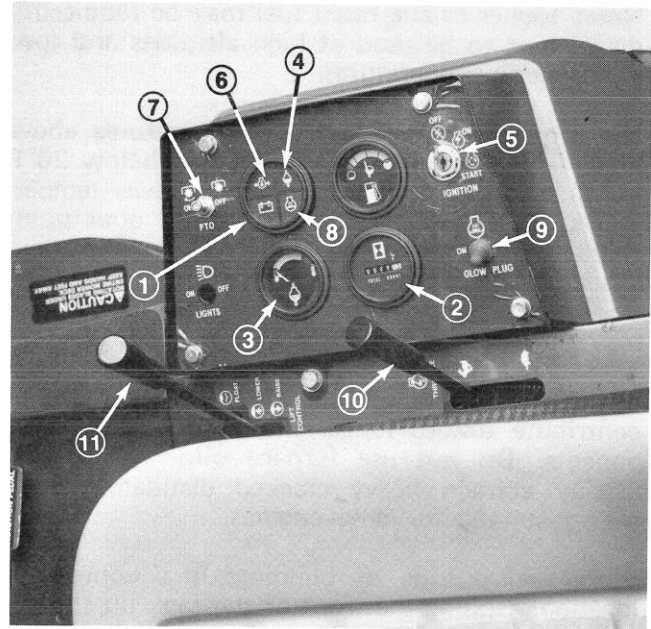

Figure 18
Amp Light (Fig. 18) — The amp light should be off when engine is running. If it is on the charging system should be checked and repaired if necessary.
Hour Meter (Fig. 18) — Accumulated engine operating time registers on the hour meter.
Temperature Gauge and High Temperature Light (Fig. 18) — The coolant temperature gauge registers the coolant temperature in the system. If the temperature gets too high the engine will automatically shut off and the High Temperature Shutoff Light will light. When this happens, turn the ignition key off, check radiator for debris, check the fan belt and check the expansion tank for proper coolant level. The high temperature shutoff will automatically reset when the coolant temperature has reached a safe level.
Low Oil Pressure Light (Fig. 18) — If oil pressure falls below a safe level, the light glows. Stop engine and repair before resuming operation.
PTO Switch (Fig. 18) — Turn PTO switch ON (lift switch while moving it to ON position) to ENGAGE and turn the PTO switch OFF to DISENGAGE the power takeoff electric clutch. The only time the PTO switch should be in the ENGAGE position is when cutting unit is on the turf and grass is actually being mowed.
Ignition Key Switch (Fig. 18) — The ignition switch, which is used to start and stop the engine, has three positions: OFF, RUN and START. Rotate key clockwise — START position — to engage starter mower. Release key when engine starts. The key will move automatically to the ON position. To shut engine off, rotate key counterclockwise to the OFF position.
Glow Plug Switch and Indicator (Fig. 18) — Use to preheat engine cylinders before and during starting procedures. Push switch lever upward and hold while watching indicator. Indicator light will glow orange when the glow plugs are activated. Length of time necessary to preheat cylinders should be determined by atmospheric temperature; refer to Starting/Stopping Engine procedure.
Throttle (Fig. 18) — Throttle is used to operate engine at various speeds. Moving throttle forward increases engine speed — FAST; rearward decreases engine speed — SLOW. The throttle controls the speed of the cutter blades and, in conjunction with traction pedal, controls ground speed of the engine.
Hydraulic Lift Lever (Fig. 18) — The hydraulic lift lever has three positions: FLOAT, TRANSPORT and RAISE. To lower cutting unit to the ground, move lift lever forward into notch in seat platform — FLOAT. The FLOAT position is used for mowing and when machine is not in operation. To raise cutting unit, pull lift lever rearward to the RAISE position. After cutting unit is raised, allow lift lever to move to the TRANSPORT position. Cutting unit must be raised when driving from one work area to another.
1. Ensure parking brake is set, PTO switch is in OFF position and lift lever is in TRANSPORT or FLOAT position (Fig. 18). Remove foot from traction pedal and insure it is in neutral.
2. Move throttle control (Fig. 18) to full FAST position.
3. When temperature is below 15°C (60°F), push glow plug switch to ON position (Fig. 18) and hold for suggested interval.
4. Turn key in key switch to START position (Fig. 18). Release key immediately when engine starts and allow it to return to RUN position. Move throttle control to SLOW position.